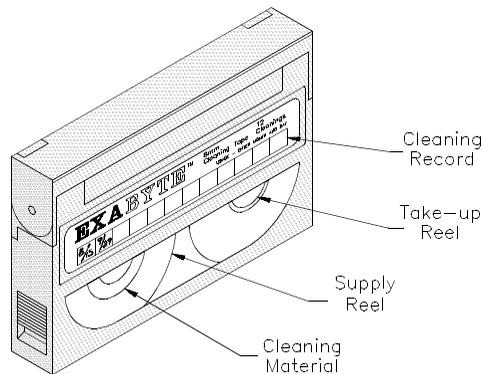

Figure 10 Exabyte 8mm Cleaning Cartridge with label showing cleaning cycles left
2. Check the usage record on the label of the cleaning cartridge to make sure that there is at least one cleaning cycle remaining (see Figure 10). If there are no cleaning cycles remaining, discard the cleaning cartridge and use a new one.